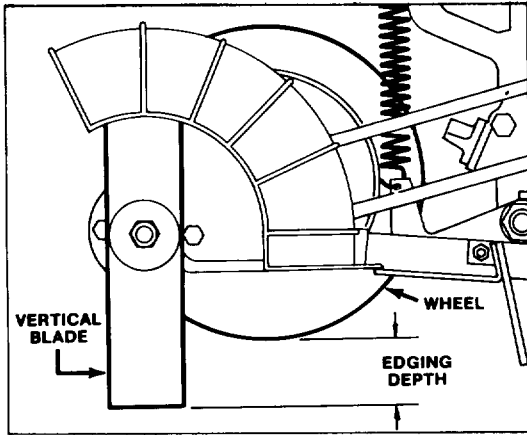

Figure 9
2. **CHECK EDGING DEPTH** (Fig. 9) – Squeeze blade/clutch lever against handle. Space between bottom of tire and ground is actual blade edging depth. If adjustment is required, go to step 3.